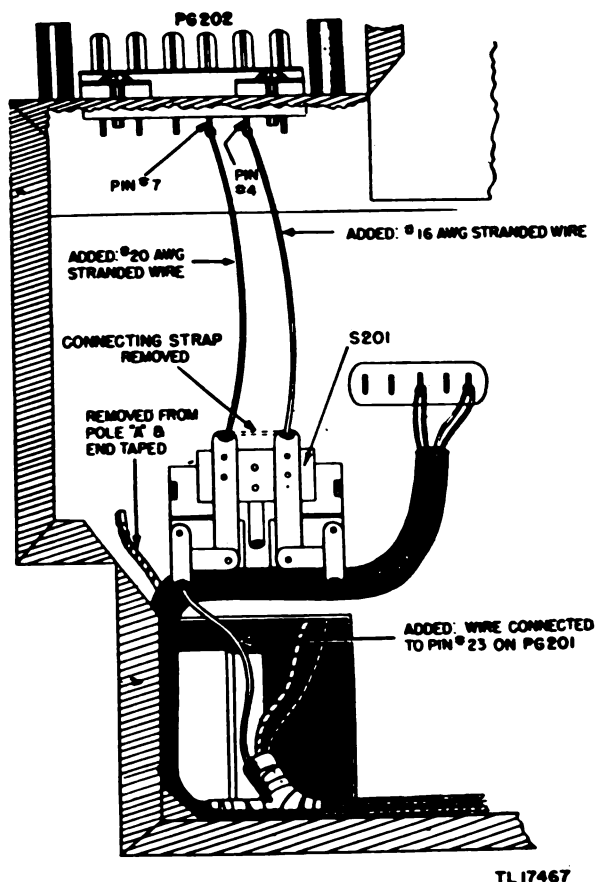

Figure 3. Interphone Amplifiers BC-605-AM -CM and -DM, modification for receiver disabling.
a. RELAY S201 (figs. 3 and 4). Some Interphone Amplifiers BC-605-A, -C, and -D have been modified so that, when used in Radio Set SCR-538-AM, -CM, and -DM, Radio Receivers BC-603-AM, -CM, and -DM are disabled by relay S201 during interphone operation. These modified amplifiers are designated BC-605-AM, -CM, and -DM. This prevents signals from the radio receiver from interfering with the interphone circuits.
a. RELAY S201 (figs. 3 and 4). The difference described in paragraph 3a above, between the BC-605-A, -C, -D and BC-605-AM, -CM, and -DM models, was made by changing connections to dynamotor starting relay S201 as follows:
(1) The connecting strap that was soldered between spring contact terminals B and C of relay S201 has been removed.
(2) The wire that was connected to fixed contact terminal A of the relay has been removed from that terminal, and the end of this wire has been taped to prevent shorting to anything within the chassis assembly.